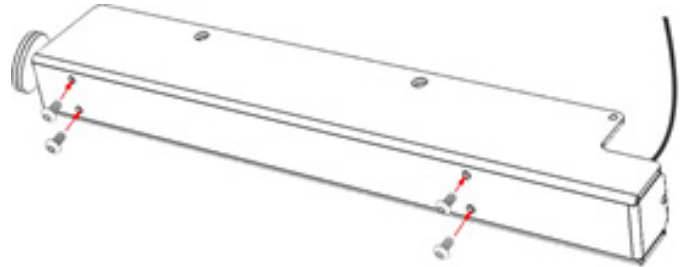

Fig. 6
7. Insert hydraulic cylinders into mounting brackets and align screw holes on flat side of cylinder with corresponding holes in each bracket. The adjustable leveling foot on the cylinder passes through the open end of the mounting bracket (bottom) and the hydraulic hose exits the opposite end of the bracket (top). Secure hydraulic cylinder to mounting bracket using 10-32 X 3/8" button head screws (4 per bracket) and an 1/8" Allen wrench. (Fig. 6)